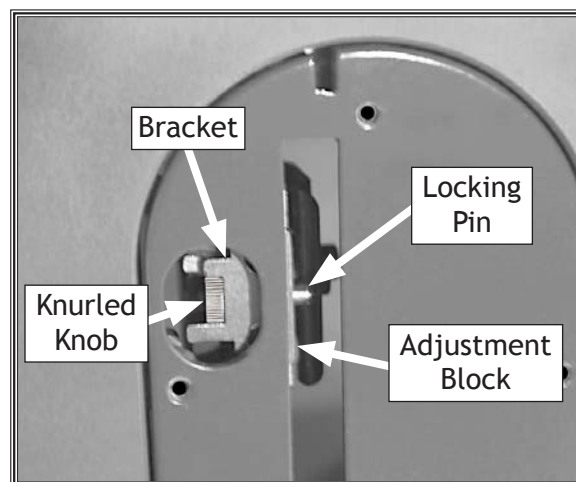

Figure 38. Knurled knob used to secure the spreader.
3. Slide the knurled knob out (see **Figure 38**), then rotate it so it engages the upper bracket.